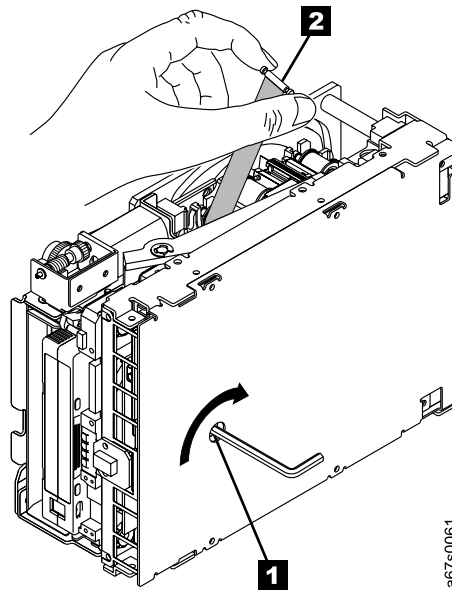

Figure 32. Rewinding the leader pin into the tape cartridge
1. Place the tape drive on its side as shown in Figure 32 on page 94.
3. If necessary, use needle-nose pliers to grasp the end of the leader pin and pull it out of the cartridge so that you can grip it with your fingers (see **1** in Figure 32).